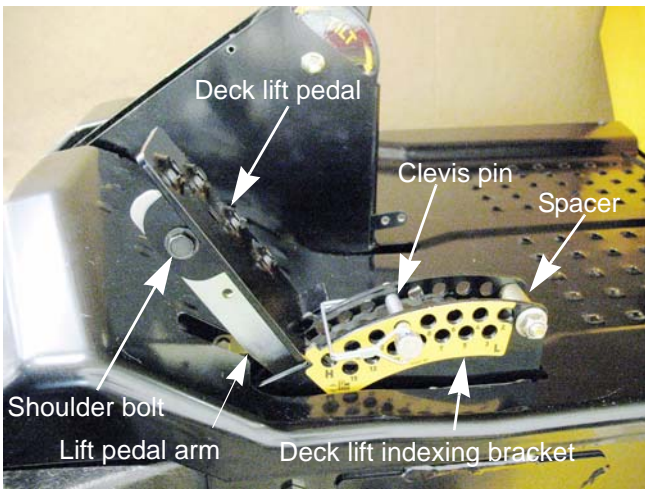

Figure 4.2
4. Remove the rear nut, bolt and spacer from the deck lift indexing bracket using a pair of 9/16" wrenches. See Figure 4.2.
5. Remove the clevis pin from the deck lift indexing bracket. See Figure 4.2.